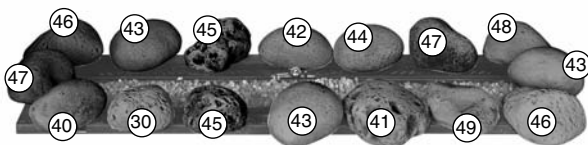

Fig. 26
3. Position the pebbles around the burner, ensuring that none come into contact with the pilot and all the gaps are even (Fig. 26).